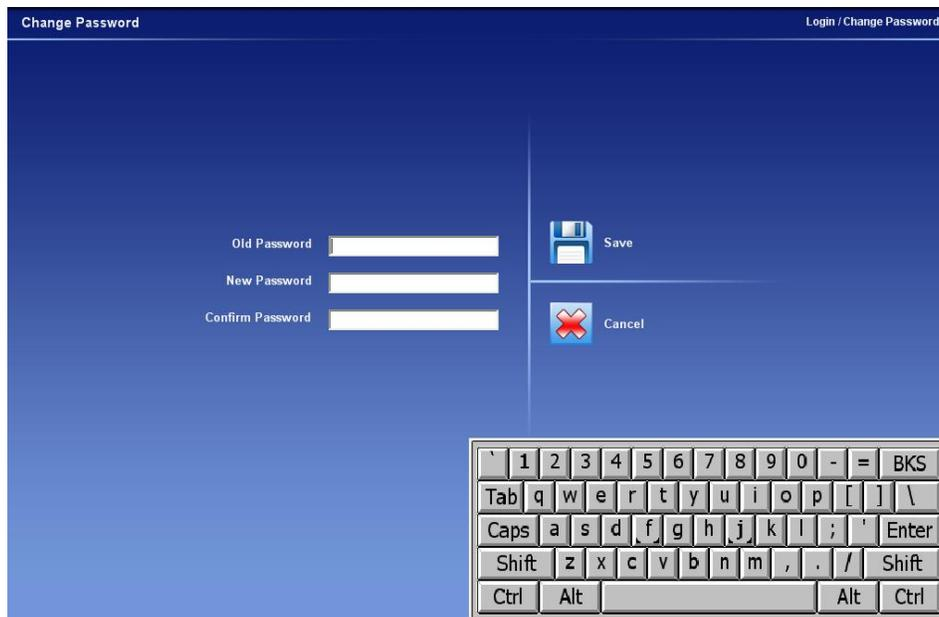

Figure 8 – Change Password Screen
2. The Change Password screen will be displayed (See **Figure 8 – Change Password Screen**). The **Old Password** field will be populated automatically by the default password, and the cursor will be in the **New Password** field.
3. The Change Password screen will be displayed (See **Figure 8 – Change Password Screen**) with the **Old Password** field automatically populated by the default password, and the cursor will be in the **New Password** field. Type the new password in the **New Password** field, and then tap the **Tab** button once. The cursor will move to the **Confirm Password** field.